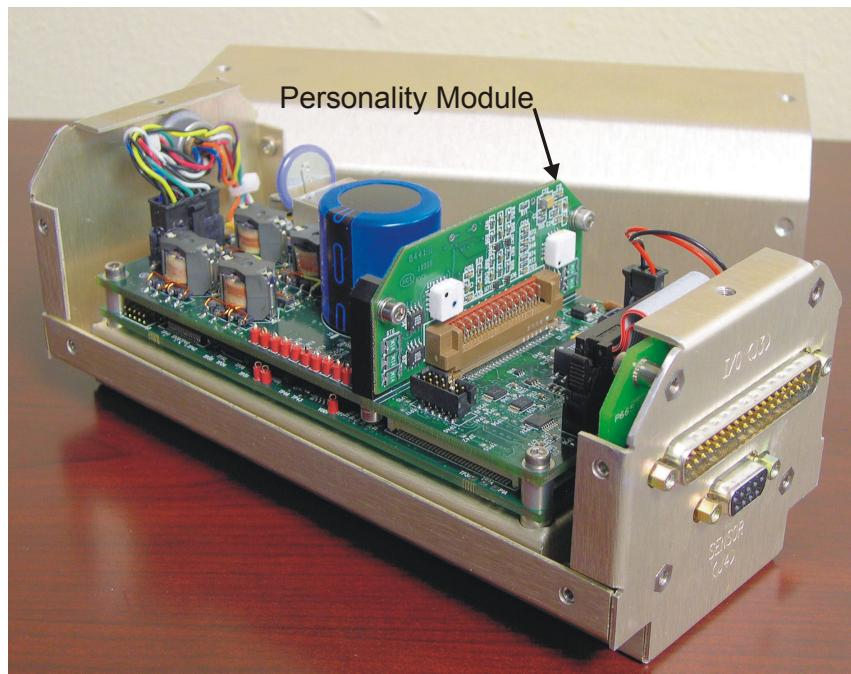

Figure 21. Personality Module Location
3. With an earth-ground static protection strap on, remove the two screws holding the personality module to the black plastic board supports so the Personality Module can be removed (see Figure 21). Pull out the Personality Module and replace it with the new module. Replace the screws to hold the new Personality Module in place.